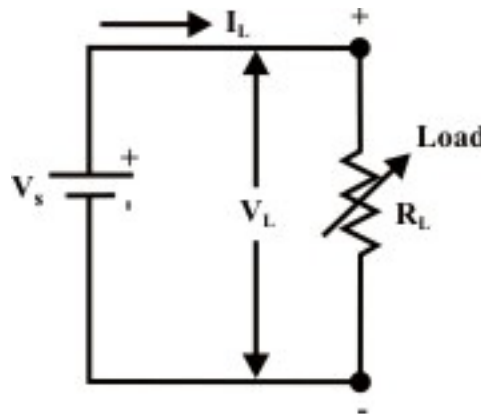
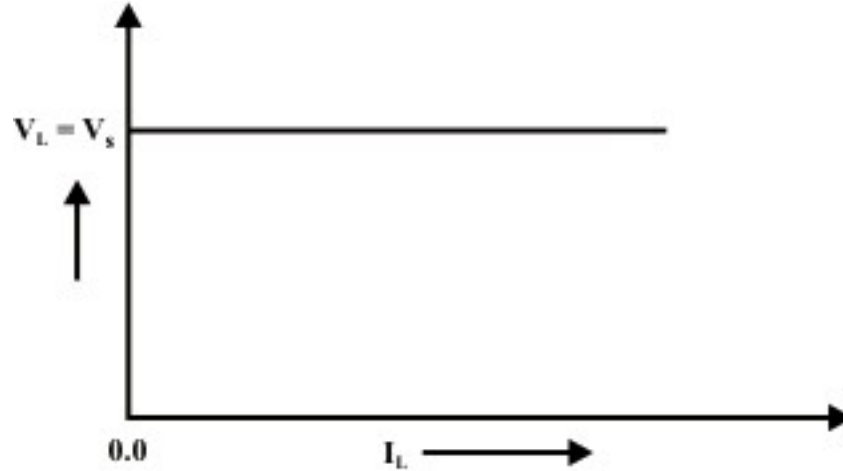
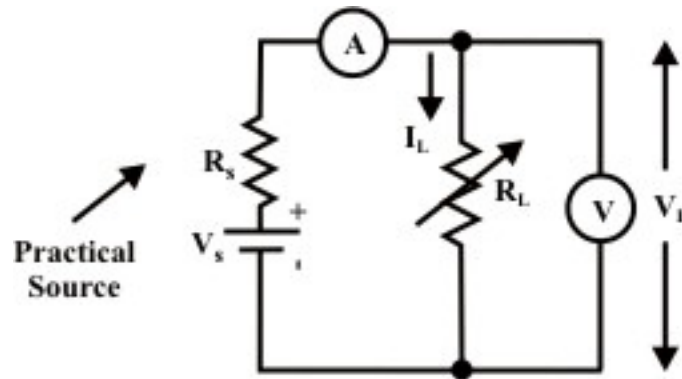
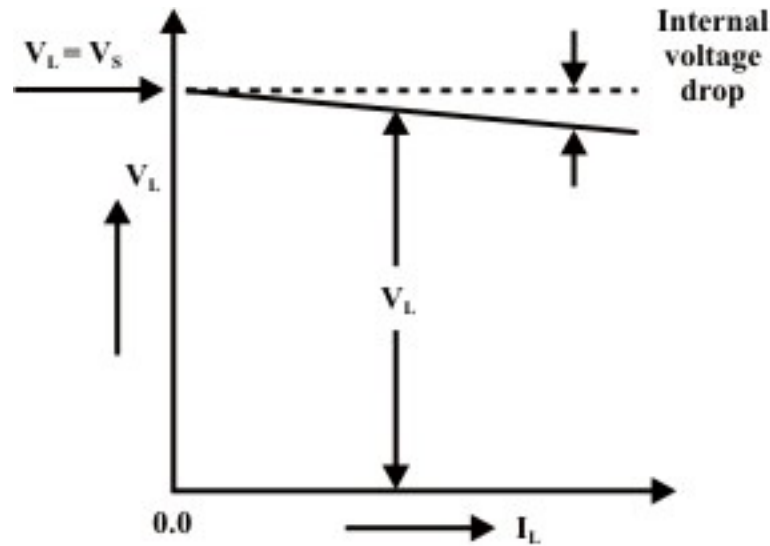

Fig. 3.13: Ideal dc voltage source
Fig. 3.14: V-I characteristics of ideal voltage source
Fig. 3.15: Practical dc voltage source model
Fig. 3.16: V-I characteristics of practical voltage source
- An ideal voltage source, which is represented by a model in fig.3.13, is a device that produces a constant voltage across its terminals ($V = E$) no matter what current is drawn from it (terminal voltage is independent of load (resistance) connected across the terminals)
For the circuit shown in fig.3.13, the upper terminal of load is marked plus (+) and its lower terminal is marked minus (-). This indicates that electrical potential of upper terminal is V_L volts higher than that of lower terminal. The current flowing through the load R_L is given by the expression $V_s = V_L = I_L R_L$ and we can represent the terminal $V-I$ characteristic of an ideal dc voltage as a straight line parallel to the x-axis. This means that the terminal voltage V_L remains constant and equal to the source voltage V_s irrespective of load current is small or large. The $V-I$ characteristic of ideal voltage source is presented in Figure 3.14.
- However, real or practical dc voltage sources do not exhibit such characteristics (see fig. 3.14) in practice. We observed that as the load resistance R_L connected across the source is decreased, the corresponding load current I_L increases while the terminal voltage across the source decreases (see eq.3.1). We can realize such voltage drop across the terminals with increase in load current provided a resistance element (R_s) present inside the voltage source. Fig. 3.15 shows the model of practical or real voltage source of value V_s .
and this equation is represented graphically as shown in fig.3.16. In practice, when a load resistance R_L more than 100 times larger than the source resistance R_s , the source can be considered approximately ideal voltage source. In other words, the internal resistance of the source can be omitted. This statement can be verified using the relation $R_L = 100R_s$ in equation (3.1). The practical voltage source is characterized by two parameters namely known as (i) Open circuit voltage (V_s) (ii) Internal resistance in the source's circuit model. In many practical situations, it is quite important to determine the source parameters experimentally. We shall discuss briefly a method in order to obtain source parameters.
Method:- Connect a variable load resistance across the source terminals (see fig. 3.15). A voltmeter is connected across the load and an ammeter is connected in series with the load resistance. Voltmeter and Ammeter readings for several choices of load resistances are presented on the graph paper (see fig. 3.16). The slope of the line is $-R_s$, while the curve intercepts with voltage axis (at $I_L = 0$) is the value of V_s .
Example-L-3.6 (Refer fig. 3.15) A certain voltage source has a terminal voltage of 50 V when $I = 400 \text{ mA}$; when I rises to its full-load current value 800 mA the output voltage is recorded as 40 V. Calculate (i) Internal resistance of the voltage source (R_s). (ii) No-load voltage (open circuit voltage V_s). (iii) The voltage Regulation.
For the circuit in fig. 3.15(a), the load voltage V_L is given by
to drive the circuit in order to perform a specific job. The internal values of these sources (either voltage source or current source) – that is, the generated voltage V_s or the generated current I_s (see figs. 3.15 & 3.17) are not affected by the load connected across the source terminals or across any other element that exists elsewhere in the circuit or external to the source.